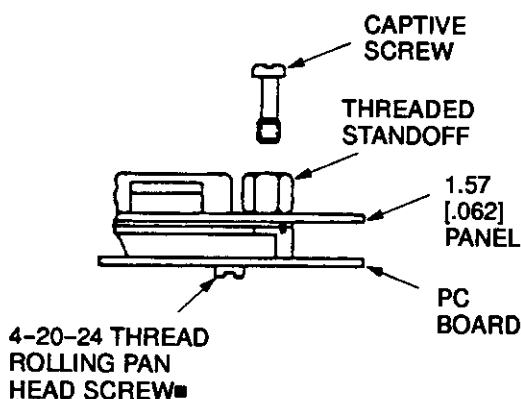

Figure 10
**C. Rear-Panel-Mount Screw-Lock Kit (Figure 10)**